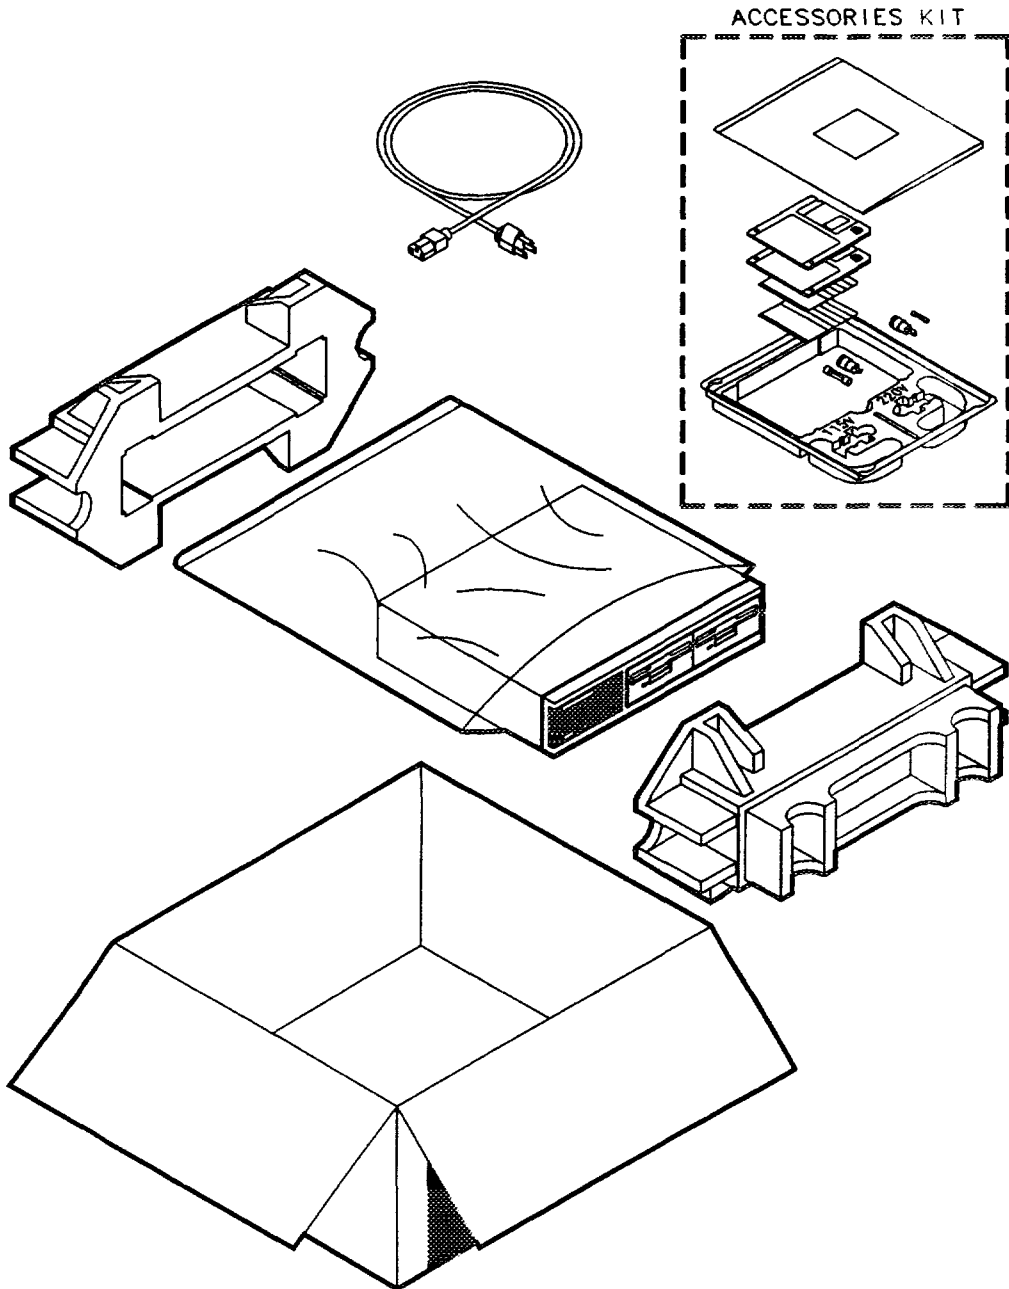

Figure 2-1. Packaging Details
- When transporting the disc drive over long distances, always repackage the disc drive in approved packaging (see figure 2-1).